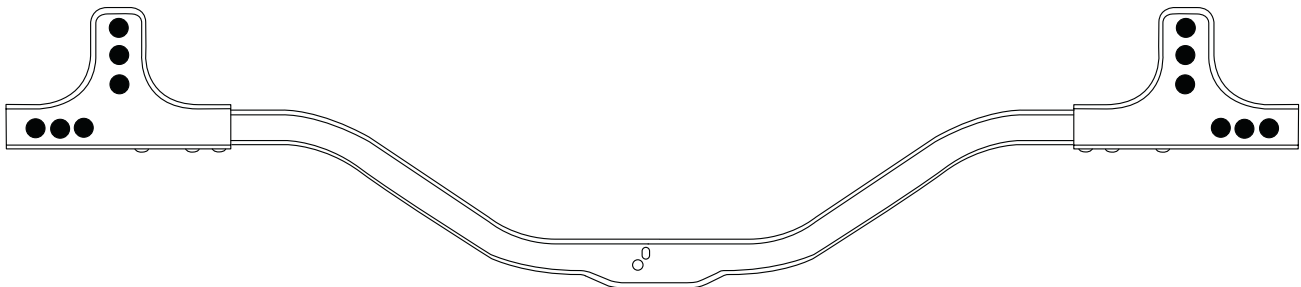

FIGURE 2
- (Refer to Figure 2) for Back view of radiator support, six (6) MIG plug welds each side.